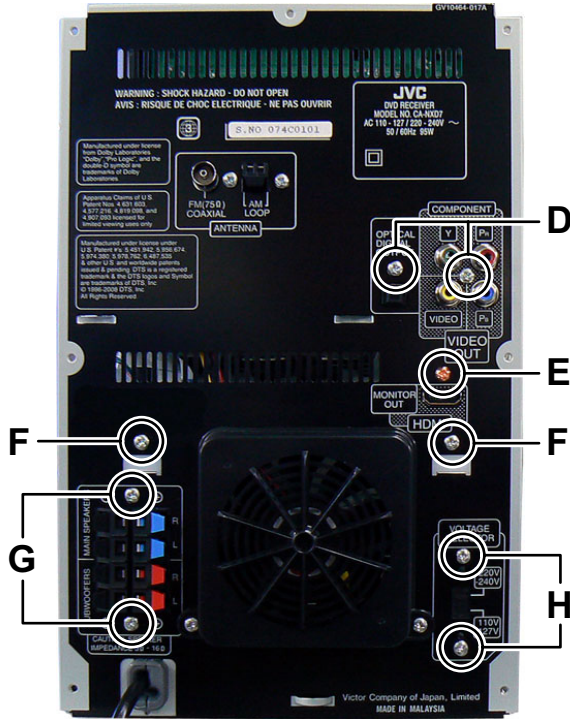

Fig.5
- (3) Remove the two screws **D** attaching the Main board. (See Fig.5)
- (4) Remove the one screw **E** attaching the DVD board. (See Fig.5)
- (5) Remove the two screws **F** attaching the Mecha chassis. (See Fig.5)
- (6) Remove the two screws **G** attaching the Amp board. (See Fig.5)
- (7) Remove the two screws **H** attaching the Voltage selector board. (See Fig.5)
3.2.2 Removing the pickup assembly (See Fig.5 to 9)
- (1) Remove the two rod springs pressing the guide shaft. (See Fig.5)